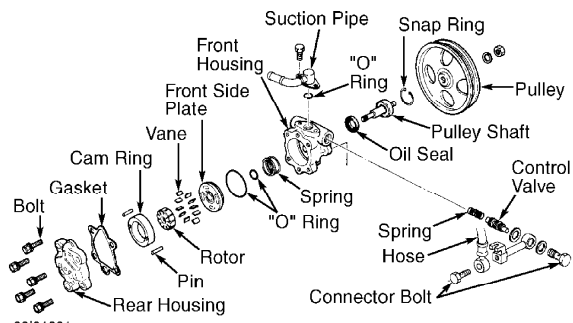

Fig. 3: Exploded View Of Power Steer Pump (Typical)
2) Remove pulley shaft retaining snap ring. Remove pulley shaft and bearing. Remove oil seal from housing. See Fig. 3. Note seal installation direction.